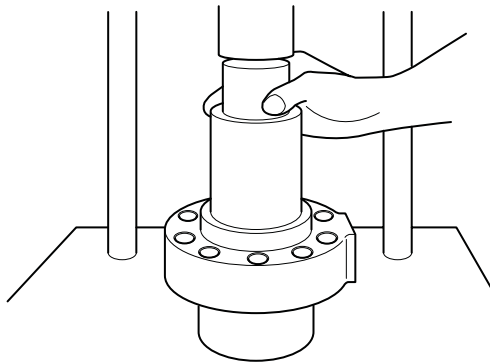

Fig 85.
- 1 locate du-bush to cylinder and push into place using a press → Fig 85. (E-198). Fit the bush retaining ring.